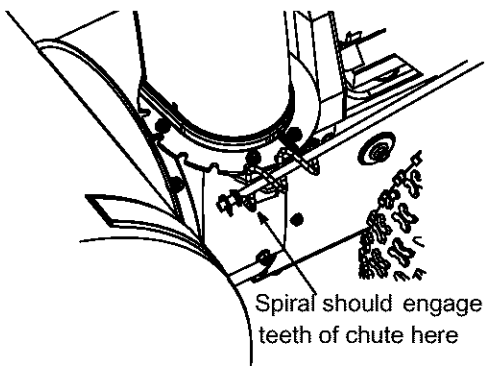

Figure 3
**NOTE:** Make sure that spiral on the chute directional control fully engages teeth on chute assembly. See Figure 3.